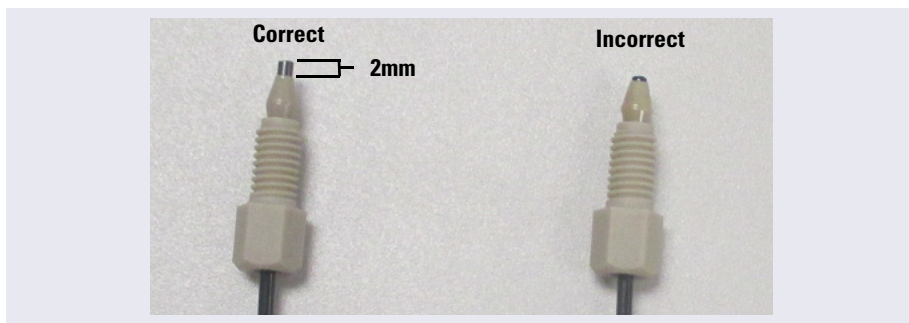

Figure 10-1. Correct and Incorrect Ferrule and Fitting Bolt Placement for Tubing Connections (High-Pressure Fitting and Ferrule Shown)
High-pressure 10-32 fitting bolts (P/N 22000-98001) and high-pressure 10-32 double-cone ferrules (P/N 043276) are used for most Dionex ICS-6000 tubing connections, even in low-pressure systems. When connecting tubing to a port, make sure the 10-32 ferrule and fitting bolt are at least 2 mm (0.1 in) from the end of the tubing before you insert the tubing into the port. *Do not* position the ferrule and fitting bolt flush with the end of the tubing. Figure 10-1 shows the correct and incorrect placement of the ferrule and fitting bolt on the tubing,
1. Install the fitting bolt and ferrule onto the tubing. Position the ferrule at least 2 mm (0.1 in) from the end of the tubing (see Figure 10-1).